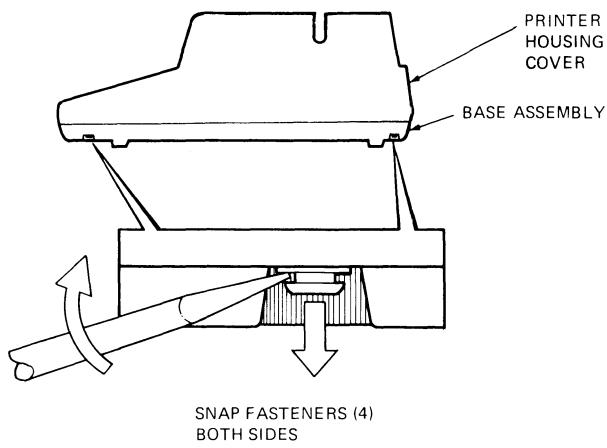

Figure 2-8 Printer Housing Removal
5. With a small blade screwdriver, release the four snap fasteners that secure the printer housing to the base assembly (Figure 2-8).
4. With a small blade screwdriver, release the four snap fasteners that secure the printer housing to the base assembly (Figure 2-8). Lift the printer housing away from the base assembly.